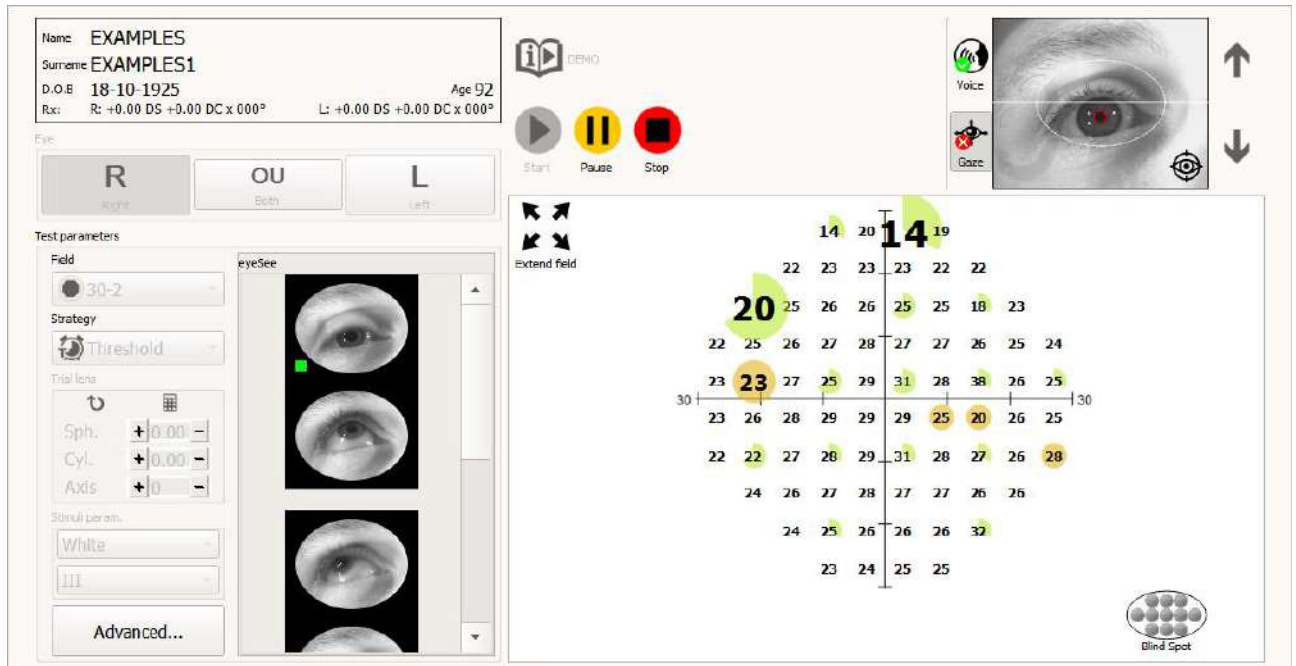

Figure 111. EyeSee images registered as a part of SF test
Along with eye images of regular test points, the images are also registered as a part of a short-term fluctuation test (SF). Eye images in this case are posted separately (Figure 111. EyeSee 138